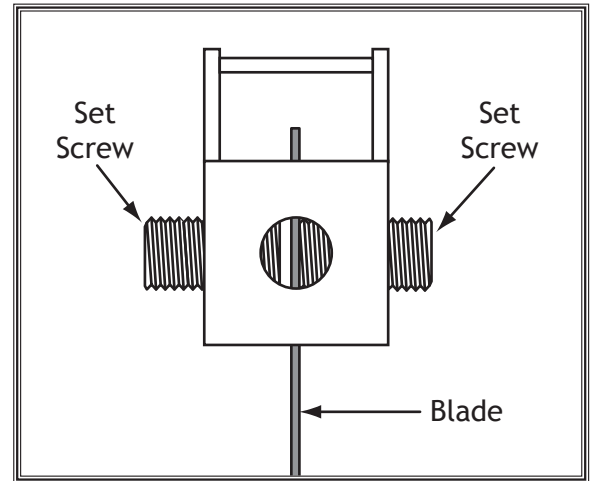

Figure 7. Plain end blade inserted and secured into a blade adapter.
4. Loosen the blade adapter set screws to allow the saw blade ends to slide through the adapters, as illustrated in **Figure 7**.
5. Thread one set screw in until it just makes contact with the blade. Keep the other set screw loose for now, as illustrated in **Figure 7**.